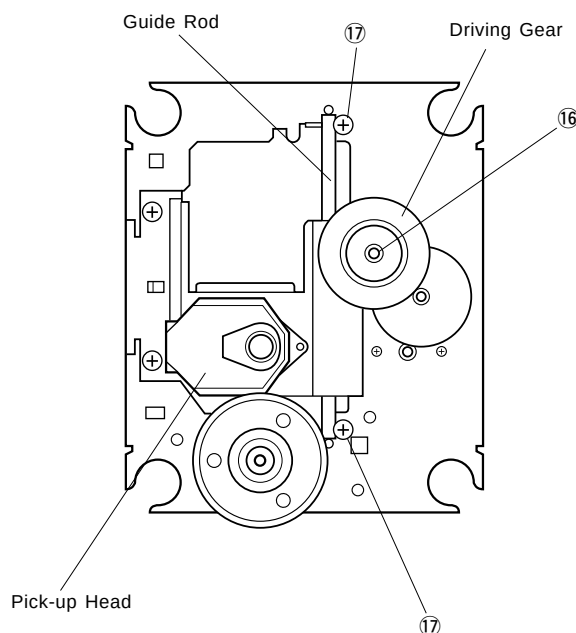

Fig. 13
- Remove a washer (⑩) and then remove the Driving Gear in Fig. 13.
- Remove 2 screws (⑪), pull out the Guide Rod and then remove the Pick-up Head in Fig. 13.